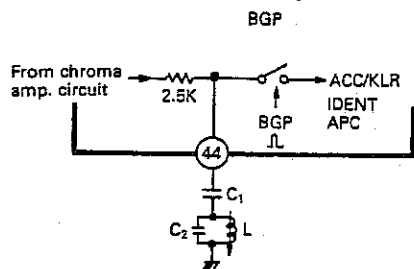

Figure 43.
To pin ④ is connected the external capacitor and tank circuit which are used to perform the cleaning of burst signal (see Fig. 43). C_1 is the capacitor to cut off DC voltage of pin ④, and L and C_2 are the tank circuit.